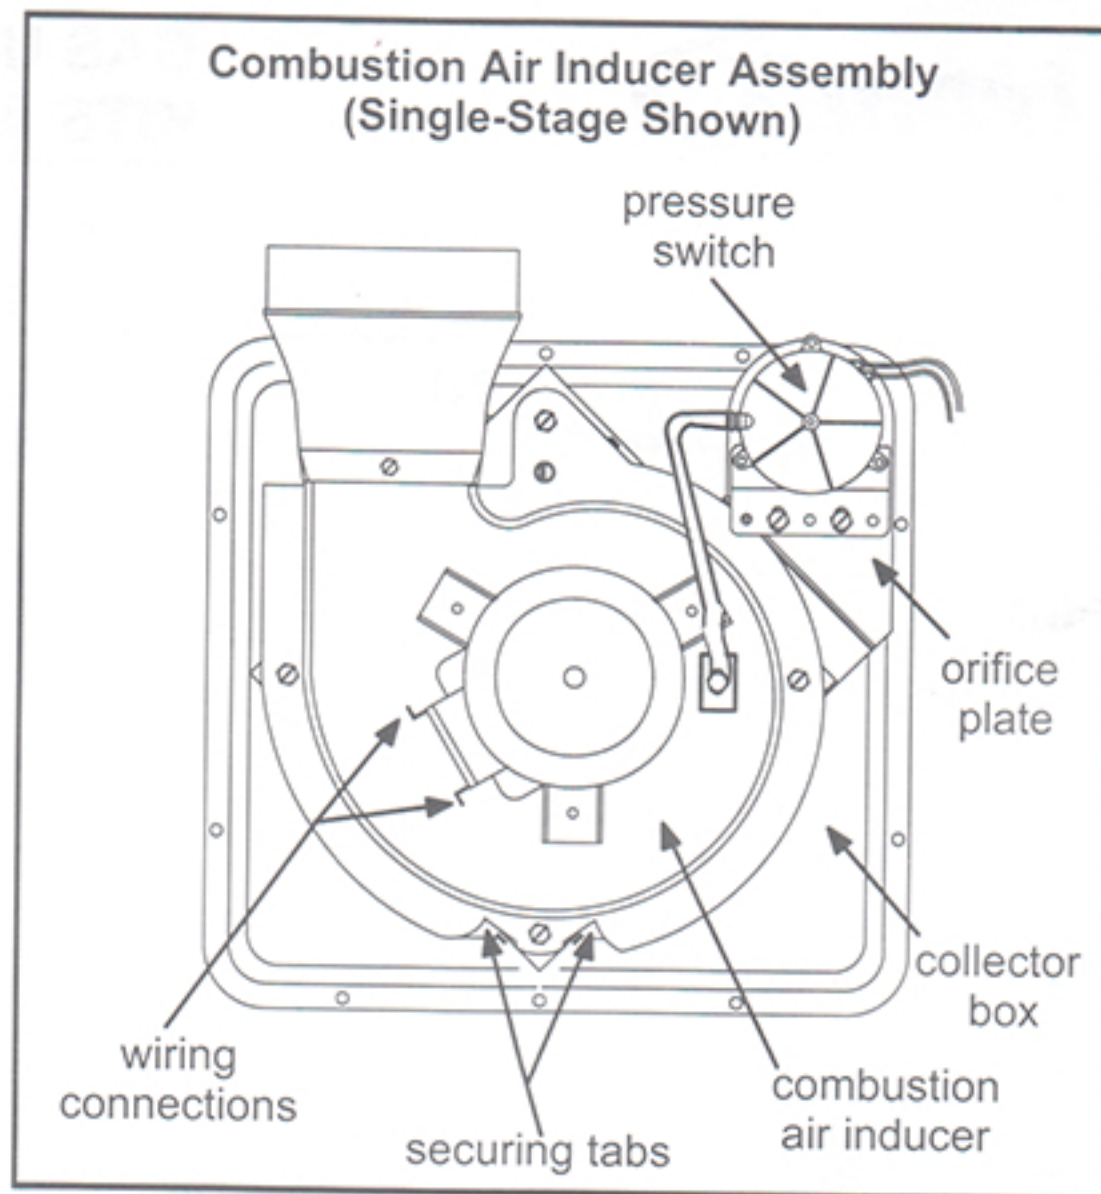
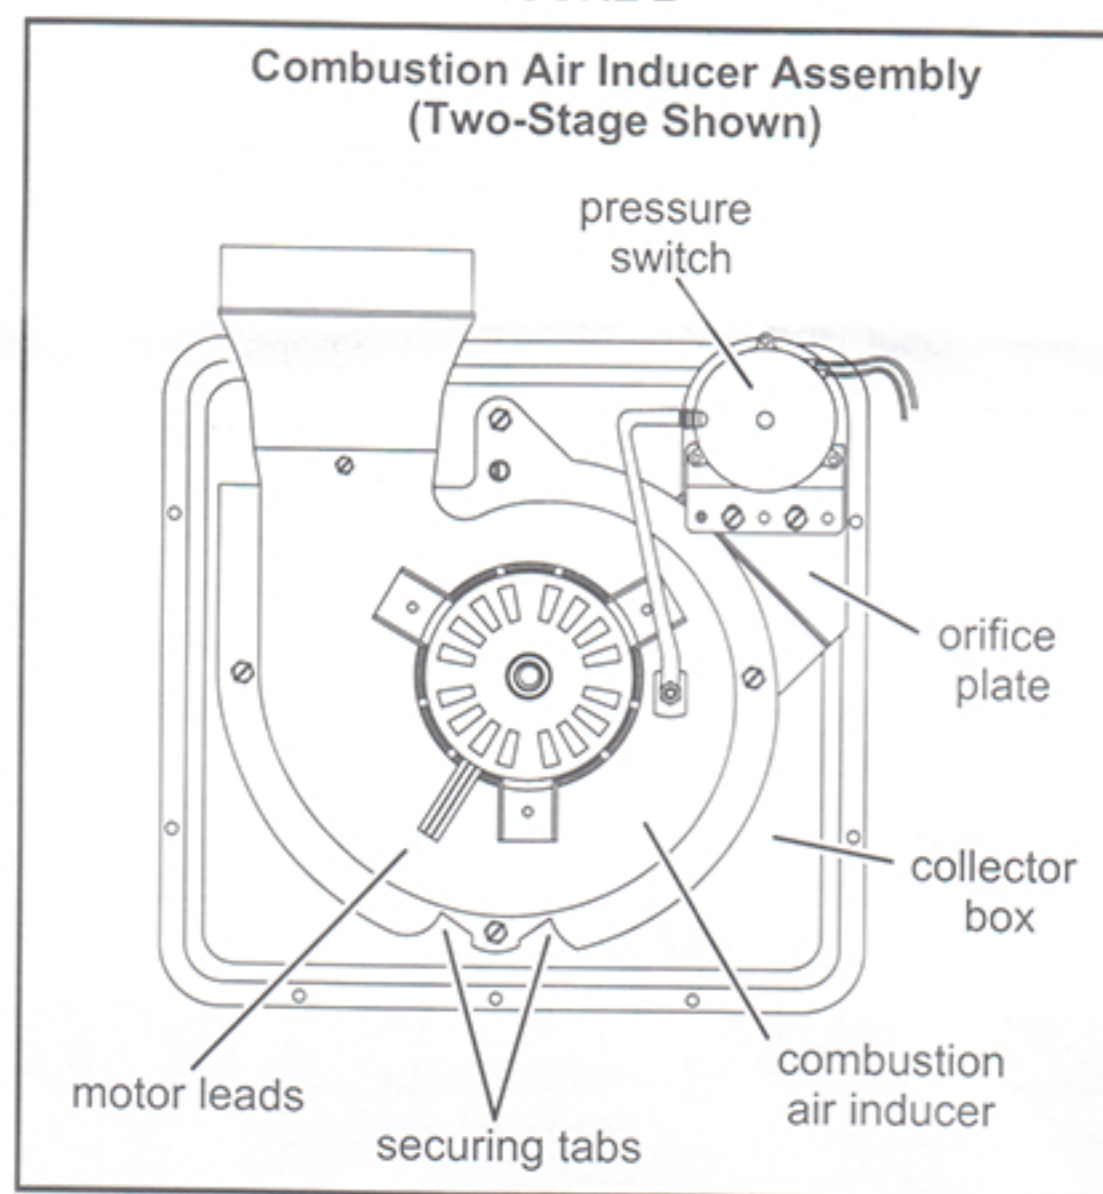

FIGURE 2
FIGURE 3
- 4 - Disconnect the wires from the existing combustion air inducer motor. These wires supply electrical power to the inducer assembly. See figure 2 for single-stage units and figure 3 for two-stage units.
- 5 - Disconnect the flexible pressure switch hose from the pressure tap or barbed fitting on the inducer housing. See figure 2 or figure 3. Replace the pressure switch hose with the provided 7" hose on G40DF, G40UH, G50DF and G50UH units with dash numbers of 14 and earlier. Replace the pressure switch hose with the provided 9" hose on G60DF(V) and G60UH(V) units with dash numbers of 8 and earlier.
- 6 - Remove the two screws which secure the pressure switch assembly to the orifice plate. Remove the pressure switch assembly and swing it clear of the inducer area. Allow the switch assembly to be supported by its wires. See figure 2 or figure 3.
- 10 - Bend the three tabs on the combustion air inducer orifice plate backward. These tabs secure the orifice plate to the inducer housing. See figure 2 or figure 3. Discard the old gasket.